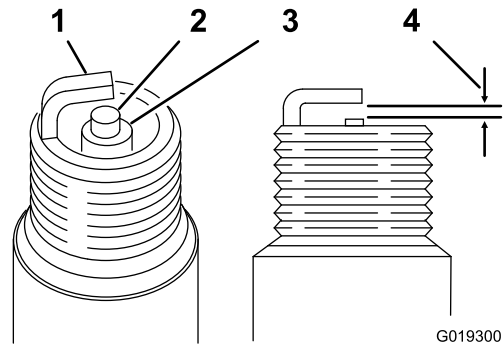

Figure 38
1. Look at the center of the spark plug (Figure 38). If you see light brown or gray on the insulator, the engine is operating properly.
2. Use a gapping tool for spark plugs or a feeler gauge to measure the gap between the side electrode and center electrode (Figure 38).